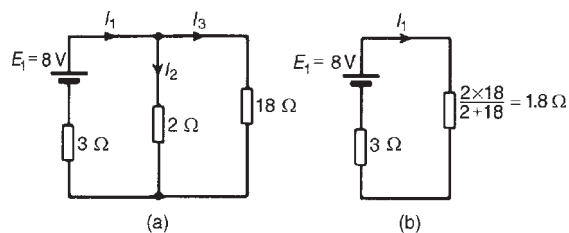
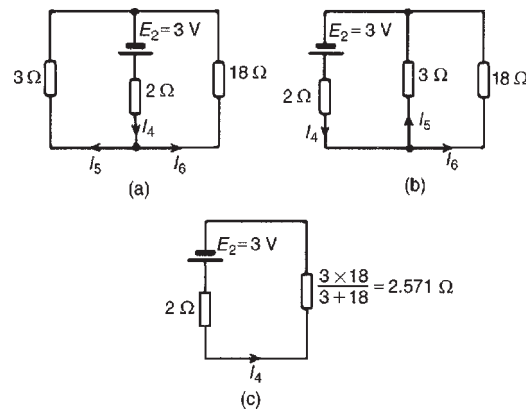
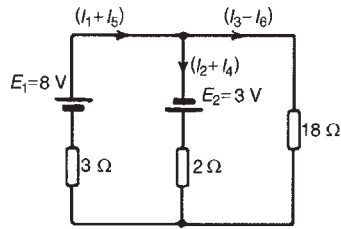

Figure 13.22
Figure 13.23
Figure 13.24
1. Removing source E_2 gives the circuit of Fig. 13.22(a)
2. The current directions are labelled as shown in Fig. 13.22(a), I_1 flowing from the positive terminal of E_1
From Fig. 13.22(b),
From Fig. 13.22(a),
3. Removing source E_1 gives the circuit of Fig. 13.23(a) (which is the same as Fig. 13.23(b))
4. The current directions are labelled as shown in Figures 13.23(a) and 13.23(b), I_4 flowing from the positive terminal of E_2
From Fig. 13.23(c),
From Fig. 13.23(b),
5. Superimposing Fig. 13.23(a) on to Fig. 13.22(a) gives the circuit in Fig. 13.24